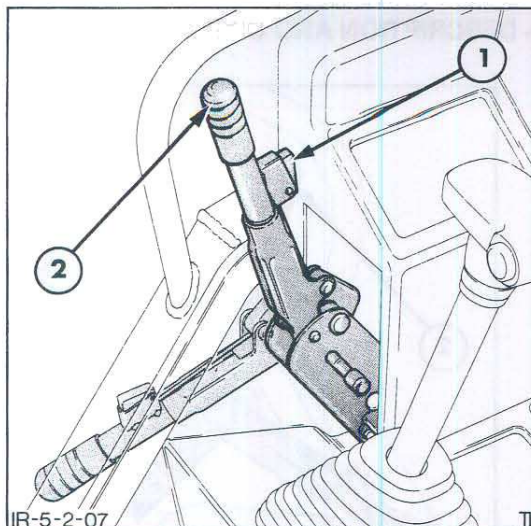
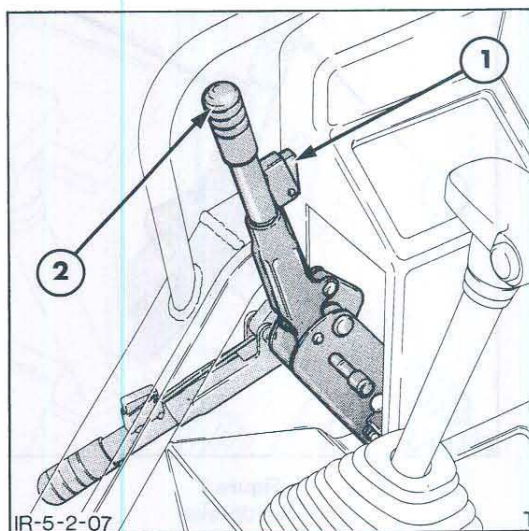

Figure 7
Figure 9
9. Adjust the handbrake tension knob on the end of the lever, Figure 7, until a full travel of 1.25 in. (32 mm) is obtained at the lower end of the cable, Figure 9.
The twin cable handbrake mechanism consists of a single hand brake lever, Figure 9, operating two cables which are connected to the rear axle brake pull rods.